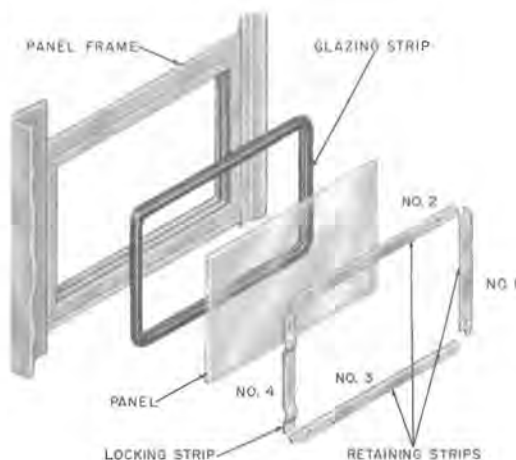

Fig. 22—Assembly of Side or Rear Panels
4.08 Booth panels and signs are held in place by four interlocking retaining strips. They are inserted in sequence as shown in Fig. 22. The No. 4 strip is rippled and is held in place by interface friction.
- (1) Remove No. 4 locking strip.
- (2) Remove retaining strips No. 2 and 3.
- (3) Remove retaining strip No. 1.
- (4) Remove panel and rubber glazing strip.
- (5) Apply rubber glazing strip to replacement panel.
- (6) Insert panel into frame with the beaded edge of glazing strip on the outside.
- (7) Replace retaining strips in sequence as shown in Fig. 22.
- 4.13** After roof is removed, the side and rear signs are removed in the same manner as the side panels (see 4.09 and Fig. 22).
4.34 Replace glass panels in similar manner as side panels (Fig. 22).